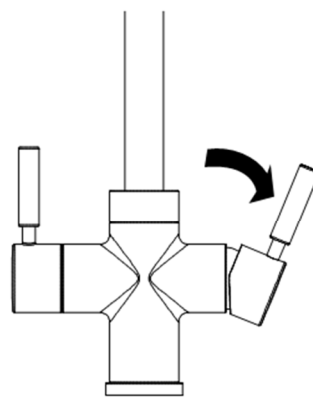
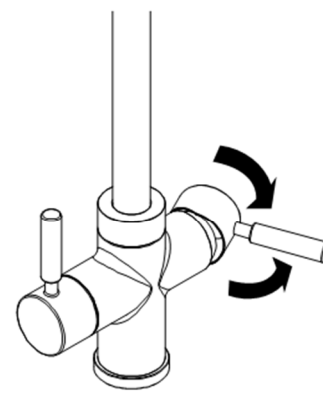

Fig 3.
Fig 4.
- **Hot & Cold (domestic) water** - This is delivered when the right-side handle is tilted right (Fig. 3) to increase flow. Cold is a near vertical position becoming warmer as the handle is rotated forwards (Fig. 4).